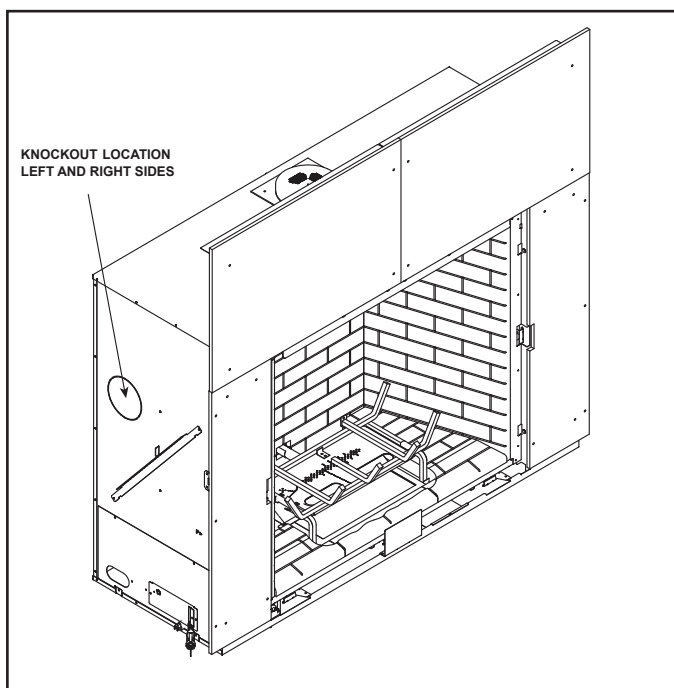

Figure 5.5 Knockout Cover Plate
- Locate the knockouts on the left and right sides of the appliance. See Figure 5.5. Remove the knockouts from the appliance with a tin snips.